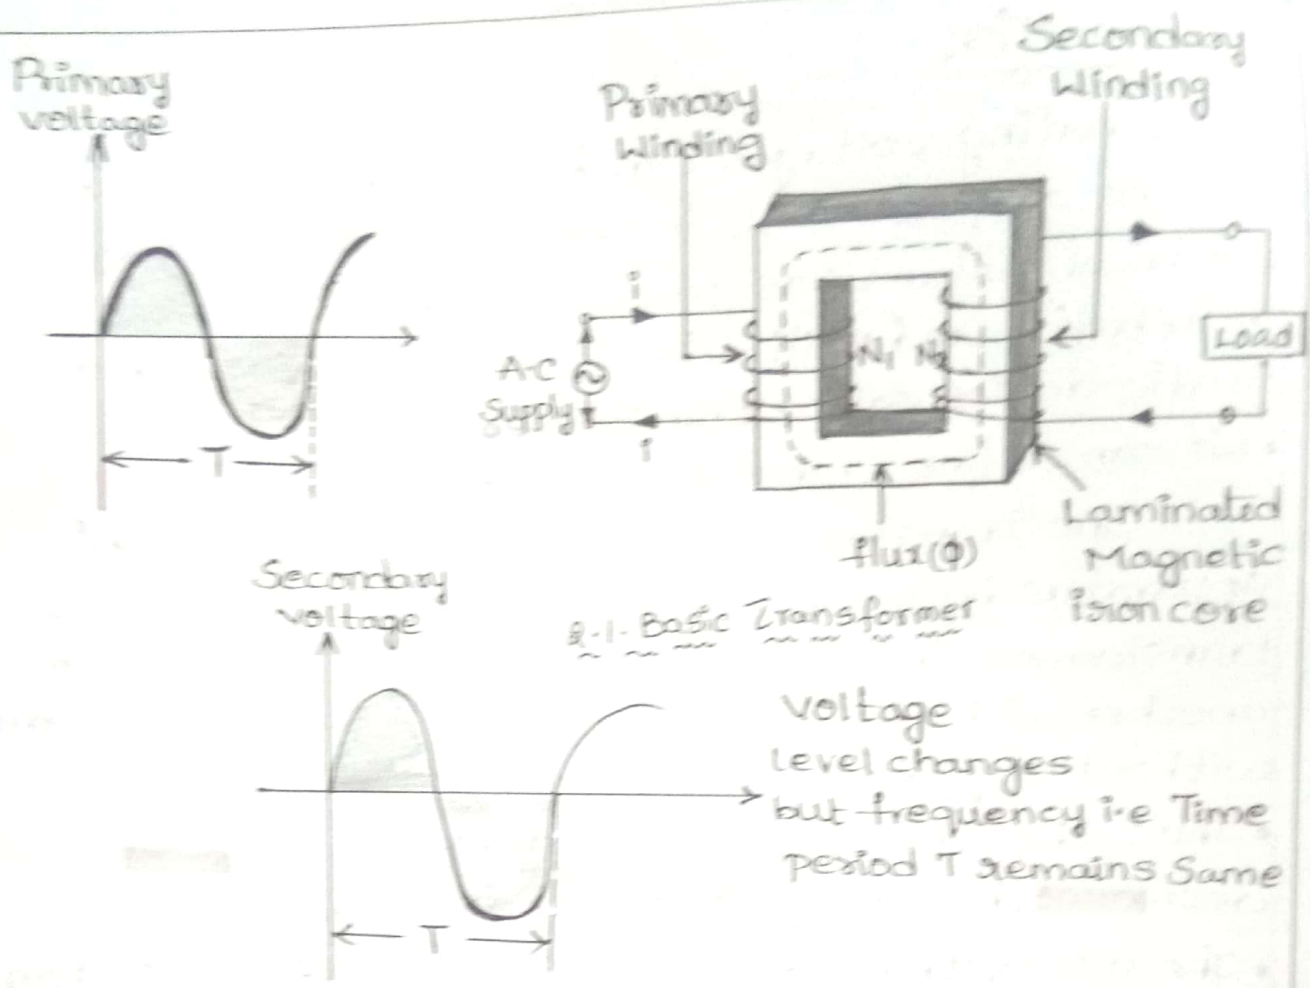

Fig. 2.1 Basic transformer
- In its elementary form, it consists of two inductive coils which are electrically separated but linked through a common magnetic circuit. The two coils have high mutual inductance. The basic transformer is shown in the Fig. 2.1.
- One of the two coils is connected to a source of alternating voltage. This coil in which electrical energy is fed with the help of source is called primary winding (P).
- The other winding is connected to load. The electrical energy transformed to this winding is connected to the load. This winding is called Secondary winding (S).